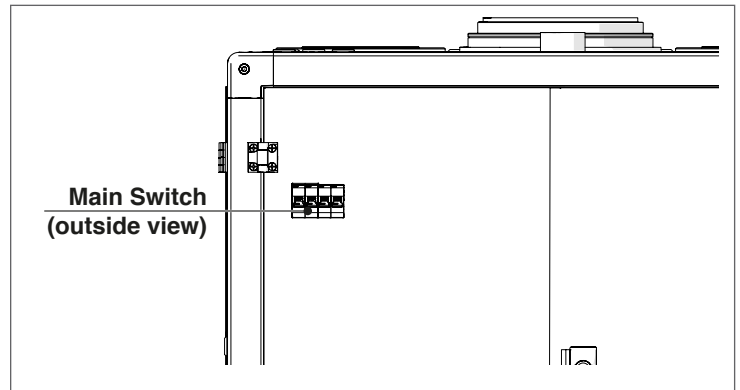

Fig. 25 Main switch
**⚠ WARNING:** The main switch shown in Fig. 25 does not remove power from the left door terminal blocks.